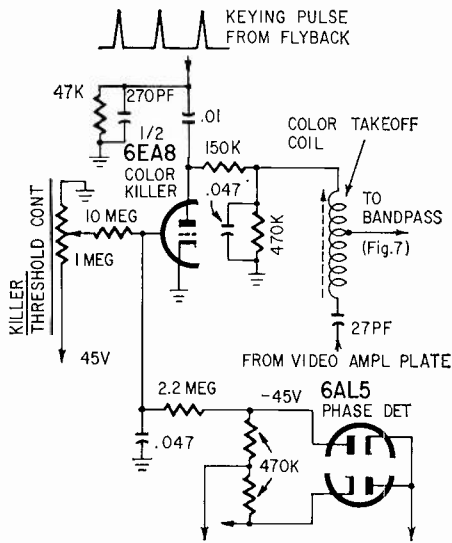

Fig. 8—Color killer. It, too is keyed by pulse from flyback.
**8. Color Killer** (Fig. 8). What's this for? Its only purpose is to cut off the bandpass amplifier during black-and-white transmissions. Some men have had trouble understanding the thing, because it "works backward," in a way. During color reception, the killer is cut off, and the bandpass amplifier works. During black-and-white reception, the killer works (conducts, that is) and the bandpass amplifier's cut off.